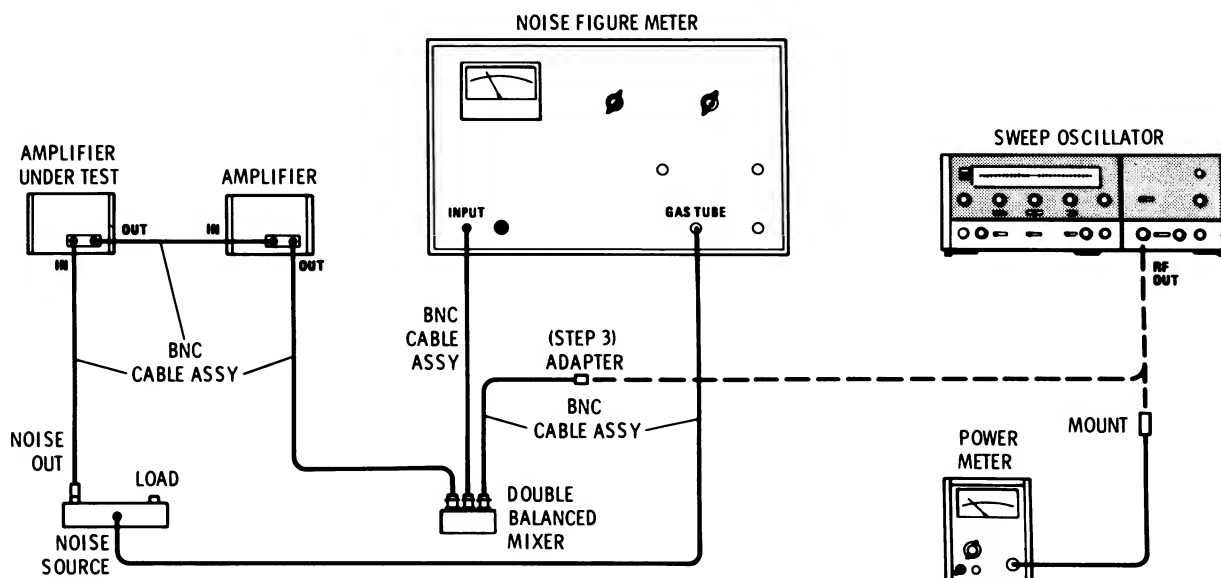

Figure 9. Noise Figure Test Setup: 1200 MHz
2. Connect the equipment as shown in Figure 9. Set the sweep oscillator for a fixed, CW signal at 1300 MHz; set the signal level out of the oscillator for +10 dBm read on the power meter.